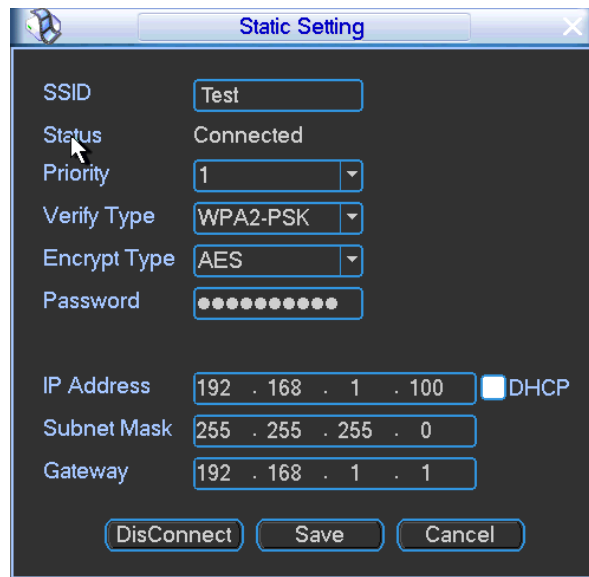

Figure 4-27
After successfully connection, you can see the following interface. You can see it is connected now. See Figure 4-27.
- On the static setting interface (Figure 4-27), only the hotspot of WEB authentication mode can supports key-index.